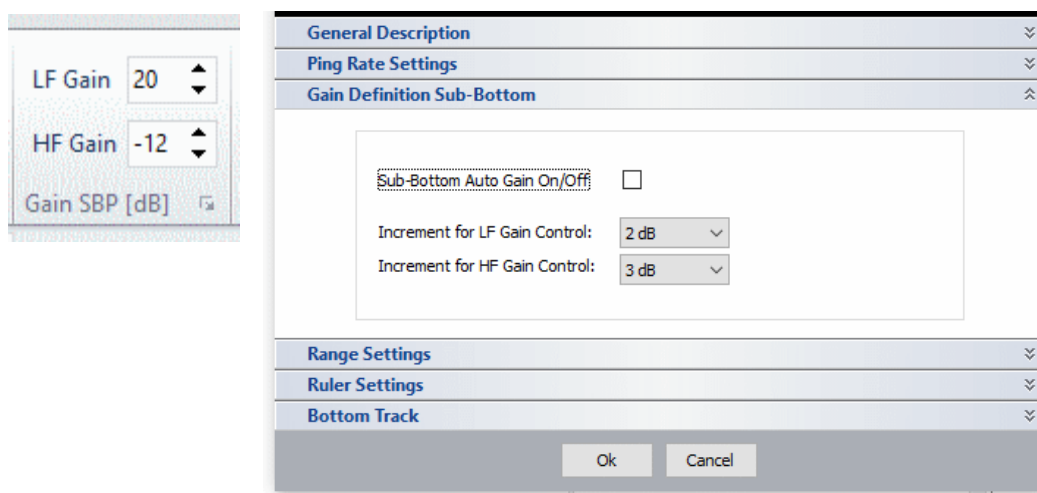

Figure 7: Setup menu, Gain definition
- **Gain definition Sub-Bottom:** Gains employed in the home window menu bar during data acquisition are final. They are set by the hardware and cannot be changed later. You may set increments for the HF and LF gain controls (Figure 7). These increments apply to the LF and HF gain in the home window. A good starting value would be an increment of 2 or 3 dB.